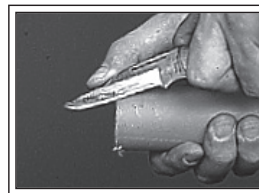

Fig.1
1. P. E. pipe surface must be clean and free of linear scratches or gouges that would affect the sealing ability of gasket for not less than 3" from end of pipe. Squareness of the cut must be such that when insert is in place with flange butted to the pipe end there shall be no gap between flange and pipe end in excess of 1/8". Use a pipe cutter or miter box to ensure squareness. Remove all burrs from inside and outside of plastic pipe after cutting. (Fig. 1)